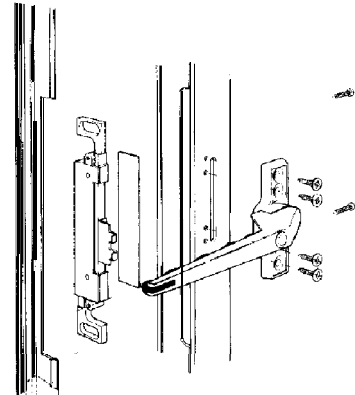

Fig 2c
- 10.5.3** Place the 2.5mm packer in the prepared aperture in the lock component - Fig. 2c. The packer must be fitted outboard of the thermal break so that a flat area is provided for the gearbox to sit on. Slide the **drive fork through** the slot in the inner face of the section, locate the packer and engage the two M4 machine screws through the section into the tapped holes in the gearbox and sandwich the packer between the gearbox and the extrusion. Tighten screws fully
- 10.11.3.3 Stick the self adhesive bump packers onto the gearbox as shown in Fig. 2c.